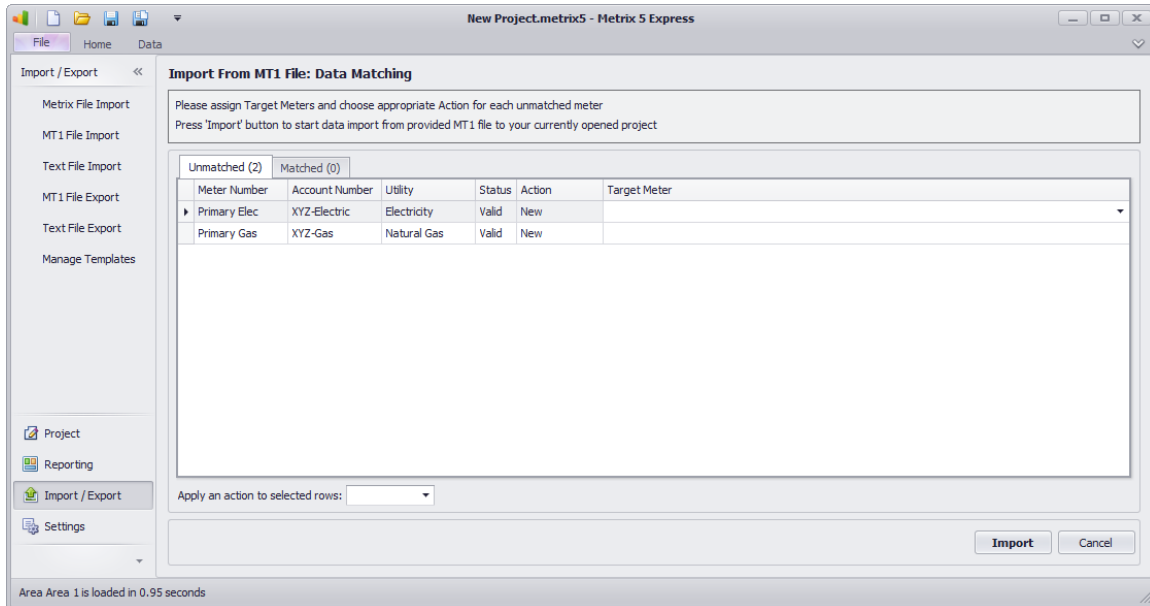

Figure 5.4: Screen reporting Matched and Unmatched imported meters.
2. **Identify meters:** once the MT1 file has been selected, the window shown in Figure 5.4 will appear. Meters stored in the file will be classified as Matched or Unmatched.
- **Unmatched tab:** any meters that could not be matched are added to the Unmatched list as shown in Figure 5.4.